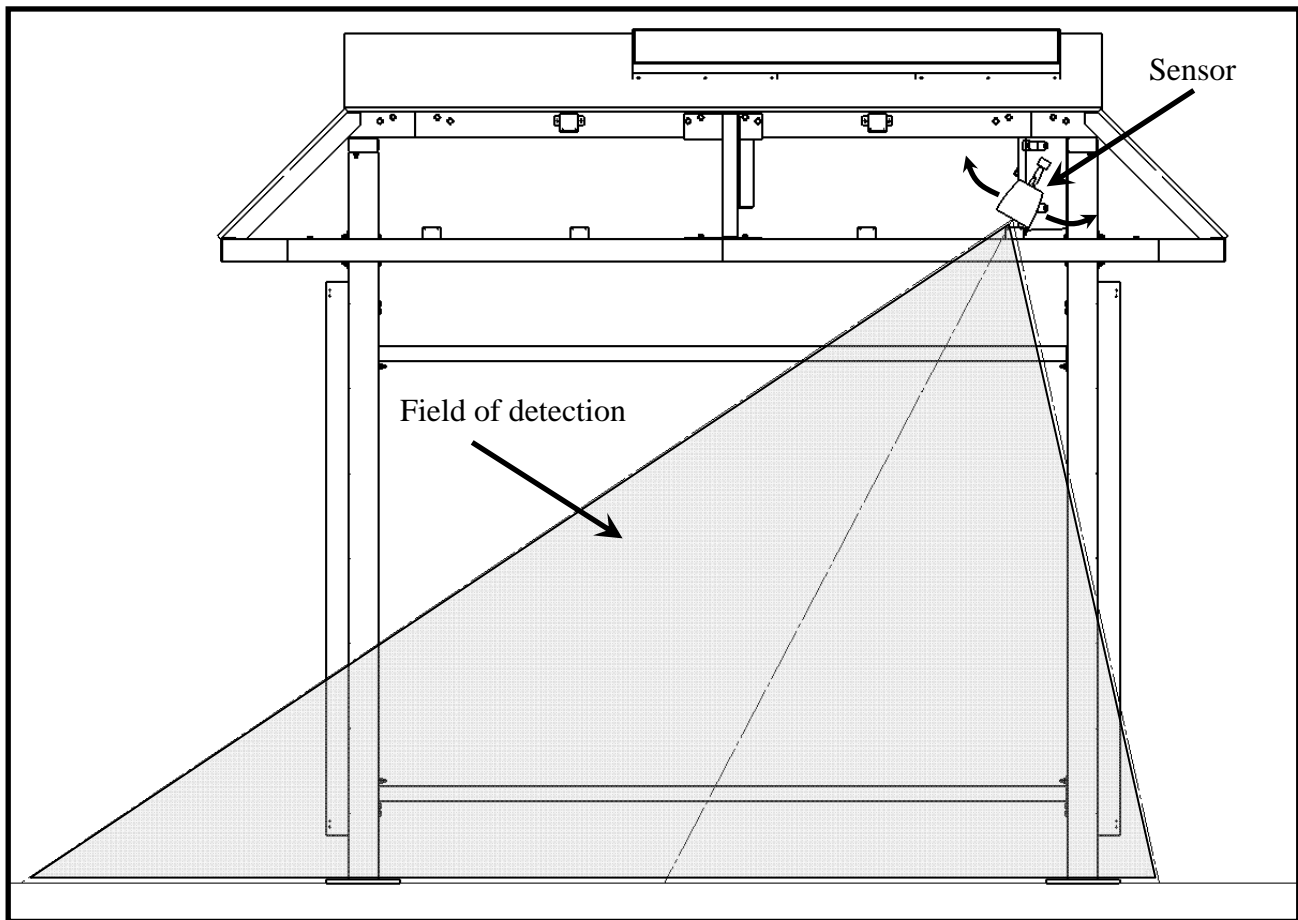

Figure 36
- a) Rotate sensor to the angle that maximizes field of detection. The sensor should be able to detect any person that walks to the front of the mailboxes. See Figure 36.